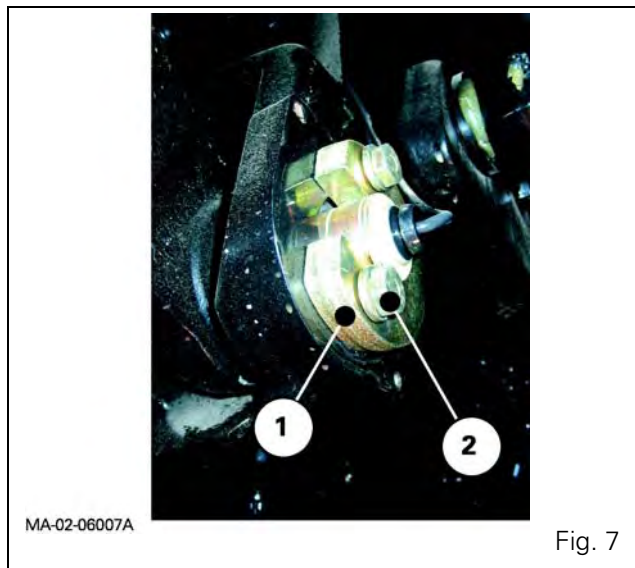

Fig. 7
- The harness guard of each sensor, the flanges (1) (Fig.7) and the protectors.
- Screw (2): 66 - 89 Nm. The thread should be lightly smeared with Loctite 270 or equivalent (Fig. 7).